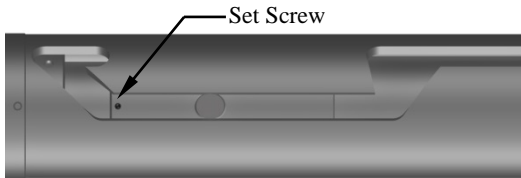

Fig. 6
L-2.16) Screw set screws (34) into J-pin bottom sub (23). Move J-body (20) as needed (Fig. 6).